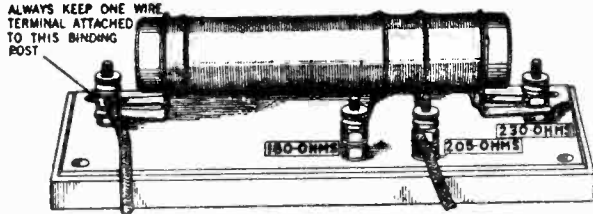

Fig. 1—100-130 Volt Resistor Unit
1. Operation on 100 to 130 Volts Direct or Alternating Current—Fig. 1 shows the 100-130 volt resistor unit, part 15728. This is the standard resistor for all Universal motor instruments operating from 100 to 130 volt circuits. On new instruments leaving the factory, the motor is connected to the 205 ohm tap, and the speed regulator adjusted at 110 volts to drive the turntable at 78 revolutions per minute. When installing Universal motor instruments, if the motor does not develop sufficient power when connected to the 205 ohm tap, shift to the 180 ohm tap, and re-adjust the speed of the turntable. If the motor runs too fast when connected to the 205 ohm tap, connect to the 230 ohm tap, and re-adjust the speed regulator. Always keep one wire attached to the end binding post shown in Fig. 1.